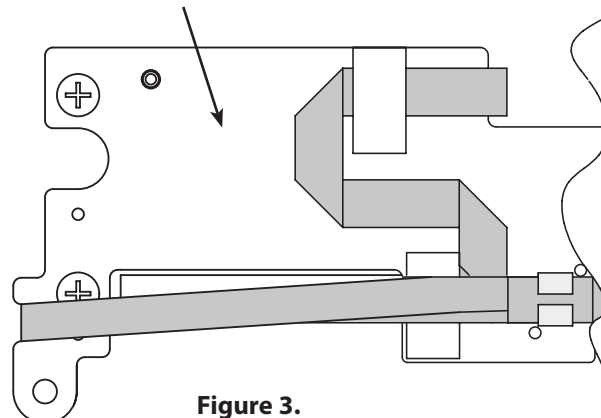

Figure 3.
5. Disconnect the clip securing the flexi circuit to the base of the chassis plate (see Figure 3).